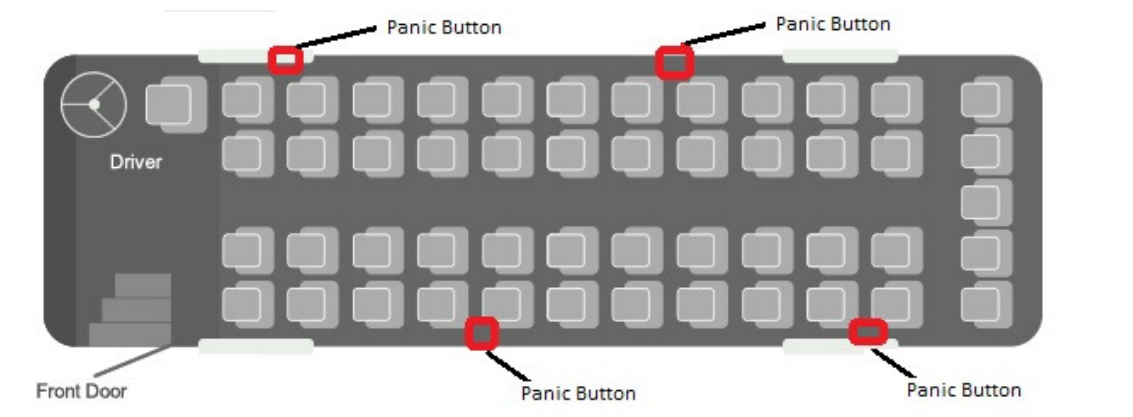

Figure 2: Indicative Panic Button positions for 49 seater
- 24 seat and above : 1+ 4(As shown in Figure 2).